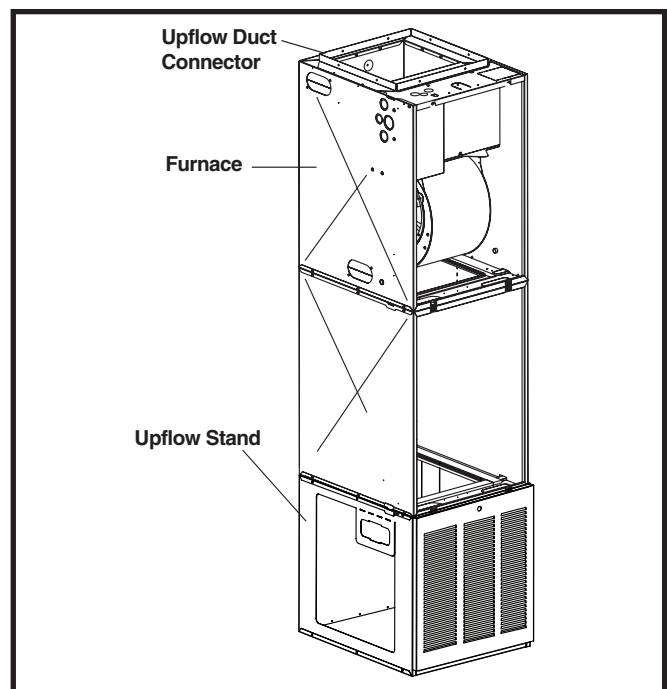

Figure 13. Over-the-Floor Return Air System with Upflow Stand
2. Use optional upflow stand (refer to the technical specifications literature for part number) with filters or construct a suitably braced mounting platform in closet. See Figure 13 \(page 9\).
6. Use optional upflow duct connector or field supplied connector to attach Appliance to overhead supply duct. See Figure 13.